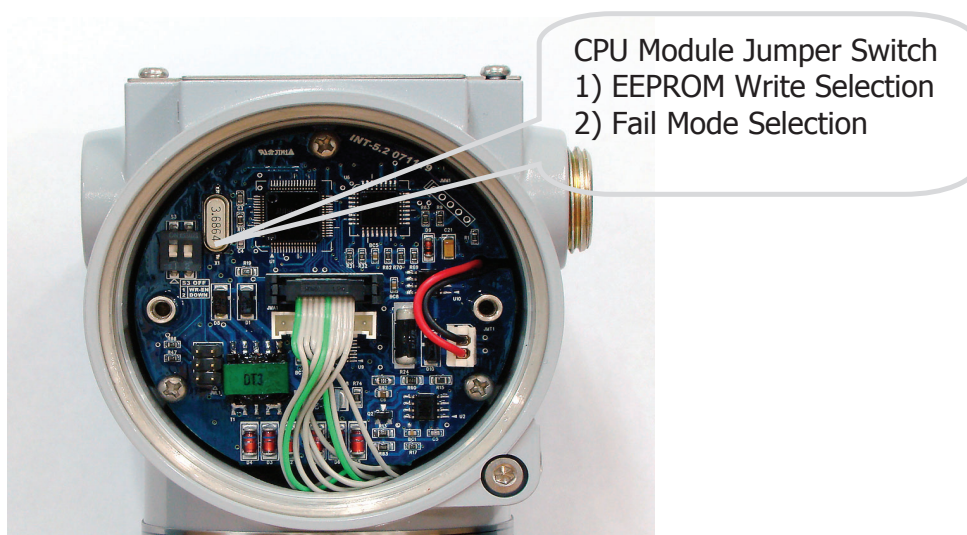

Figure 5-3. CPU Module Fail Mode, EEPROM-Write Selection Jumper Switch
**Note:** DIP Switch (1) shown on Left in Fig 5-3 is for Write Enable/ Disable selection. DIP switch (2) shown on right in Fig 5-1 is for Fail Mode.